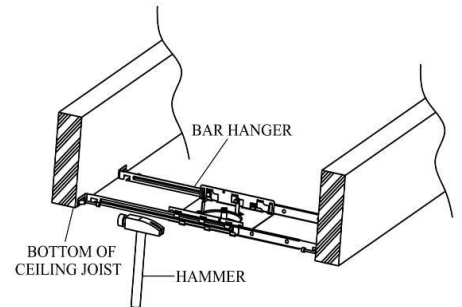

Figure 4
2. Install NEW CONSTRUCTION ADAPTER (purchased separately) by positioning the LKABH BAR HANGERS (purchased separately) between the ceiling joists and nailing in the attached nails to secure in place. (Figure 4 & 5)